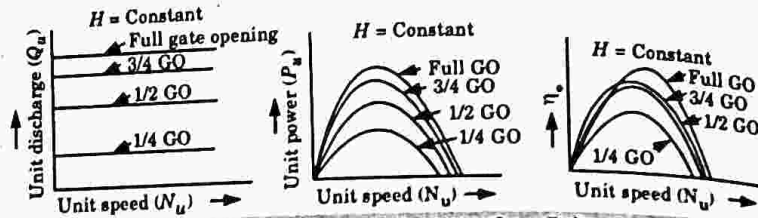

Fig. 5.26.1. Main characteristic curves for a Pelton wheel.
- a. These are obtained by maintaining a constant head and a constant gate opening (GO) on the turbine.
- c. These curves are drawn between the unit quantities. Curves are shown in Fig. 5.26.1.